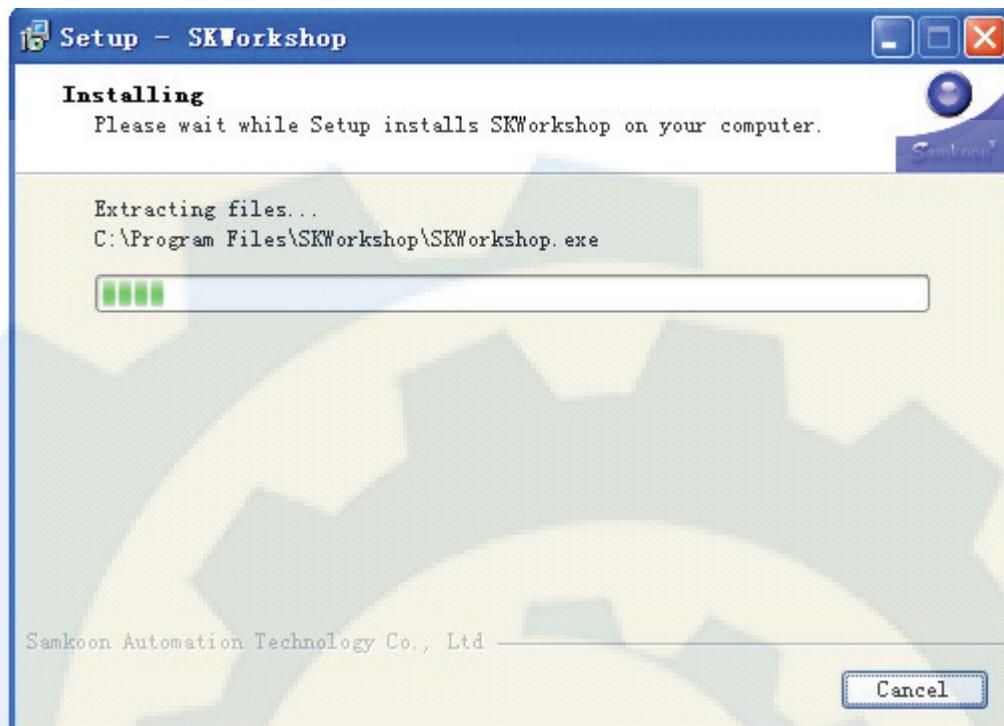

Figure 2-10: Installation dialog
- Then an installation dialog will appear where you can click Cancel to cancel the installation, as shown in Figure 2-10.